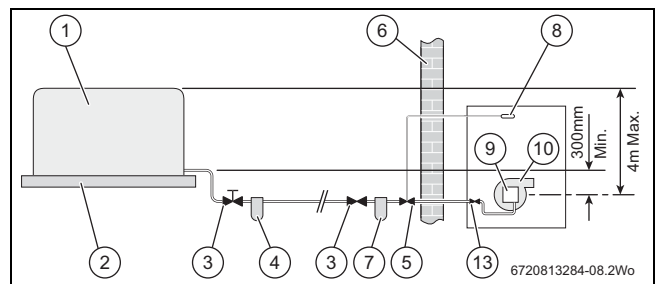

Fig. 4 Single pipe feed
**Key to Oil supply illustrations, figures 4, 5 & 6**